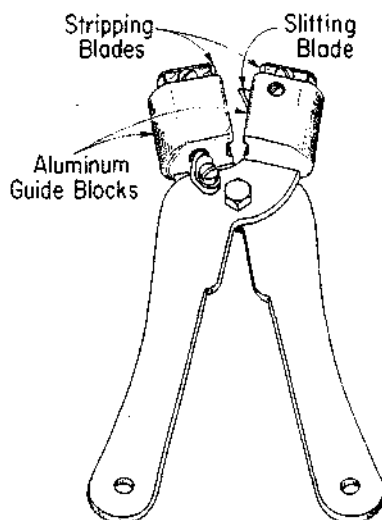

Fig. 1—Wire Splitter
2.01 The wire splitter (Fig. 1) consists of a pair of hinged steel handles to which are fastened guide blocks containing a steel knife for slitting the wire. A pair of grooved knives at the end of the tool are for stripping split wire ends.